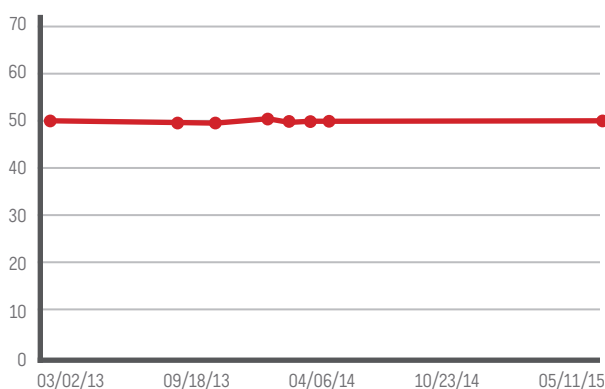

Figure 6. Normalized delta pressure of the first stage of the RO system after Vitec 7000 was put online
- 3 The delta pressures remained constant (Figures 6 and 7).